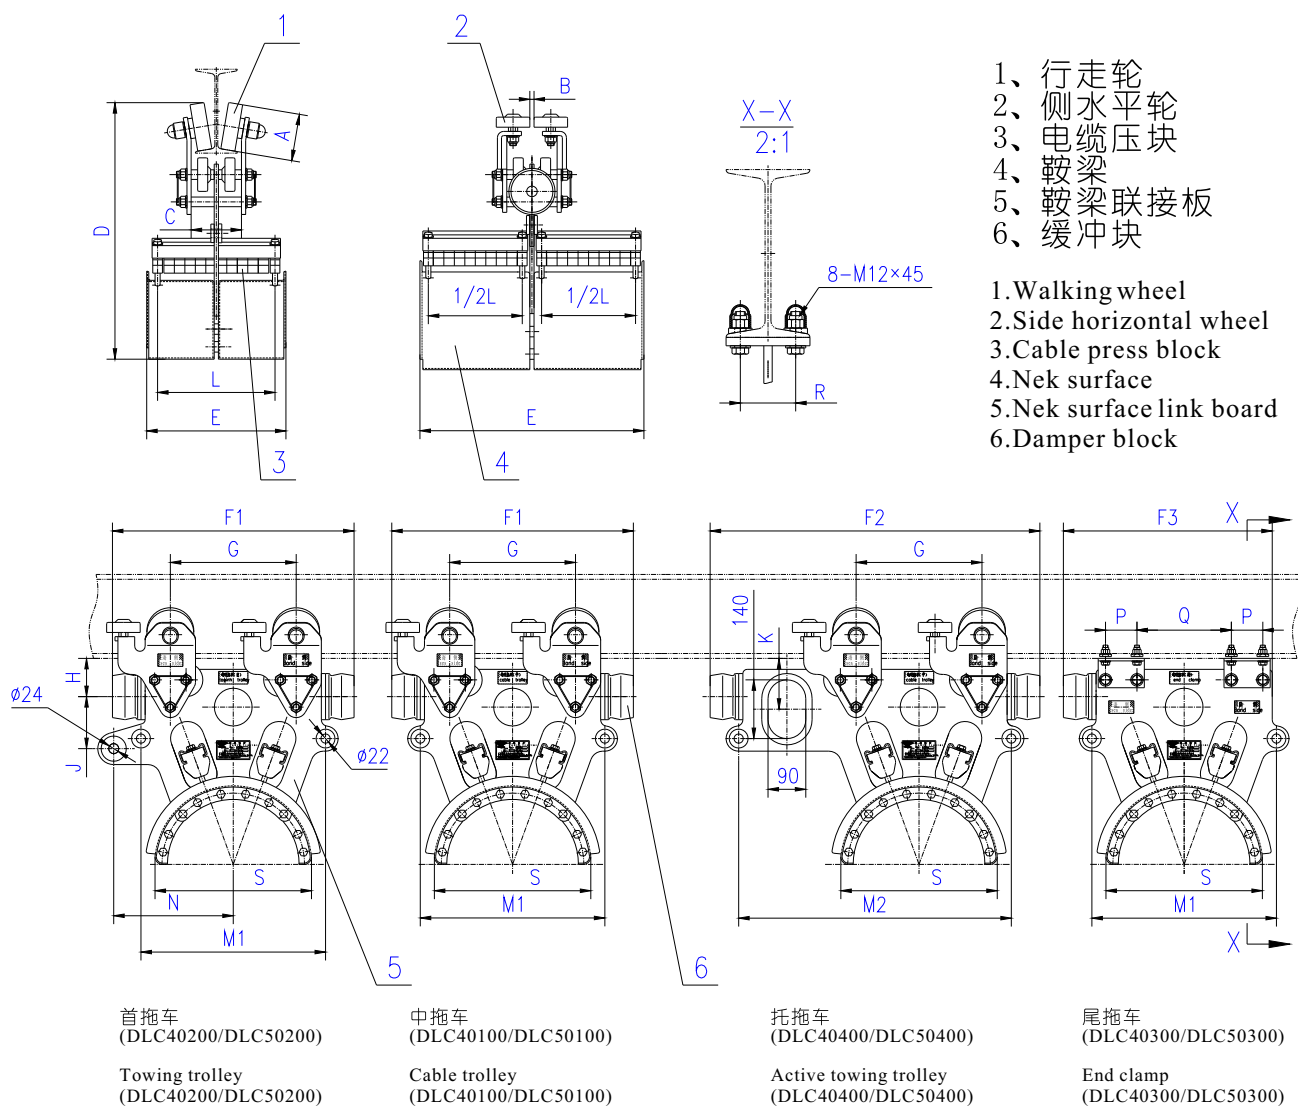

图3 Figure3
- 1部托拖车 (见图3)，托拖车只在中拖车大于10部以上才要求装，并要求施加一个动力给托拖车进行运行。托拖车安装于所有中拖车的中间。
1 piece active towing trolley (see figure3), active towing trolley only append when cable trolley's quantity more than 10 pieces. the active towing trolley need a power to run, it is installed on middle of all cable trolleys.
关参数 (详见图3和表1、2) 可运算滑车
value (for detail see figure3, table1, table2), can determine
四、技术参数和外形尺寸 (图3和表2)
IV. Technical value and dimension size (figure3 and table2)